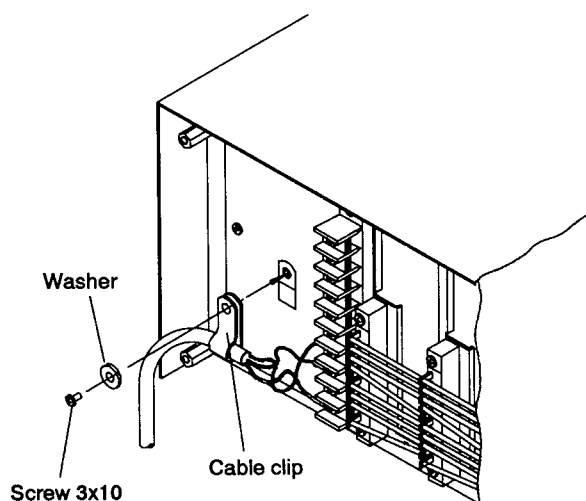

Fig.5
7. Secure the power cable connected to the terminal block to the sub-panel using a (nylon) cable clip. (Figure 5)